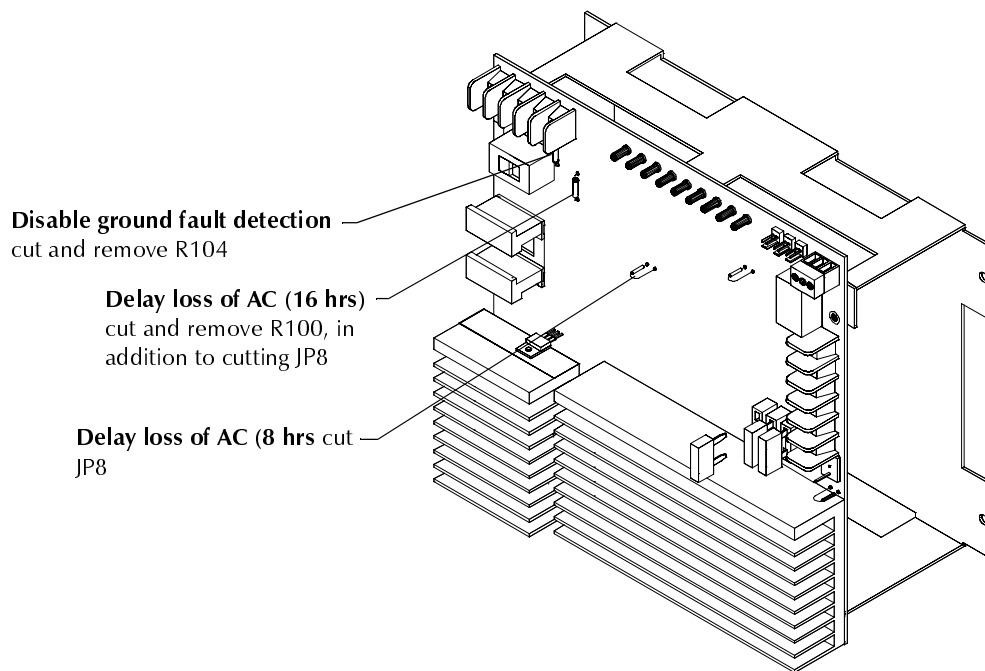
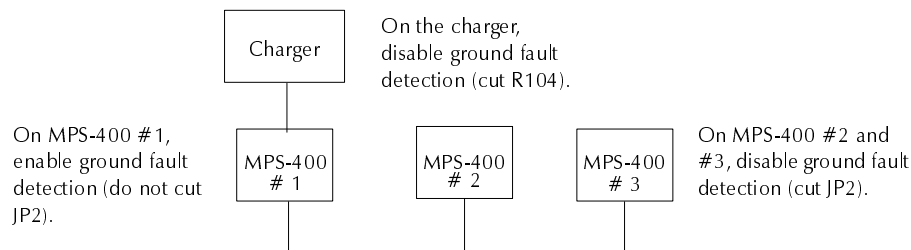

Figure 11 Configuring the Charger
Figure 12 Disabling Ground Fault Detection
Figure 11 shows how to configure the charger for delaying the loss of AC reporting and for disabling ground fault detection:
- 8-hour delay – Cut and remove jumper JP8 on the charger (Figure 11).
- 16-hour delay – Cut jumper JP8; then, cut and remove resistor R100 (Figure 11).
Disable Ground Fault Detection To disable local (charger) earth fault detection, cut and remove resistor R104 (Figure 11). Figure 12 contains a simplified block diagram that shows ground fault detection disabled on a charger connected to multiple power supplies:
2. Connect the AM-1 harness to JP3 on the charger (Figure 11)—making sure to observe proper polarity.